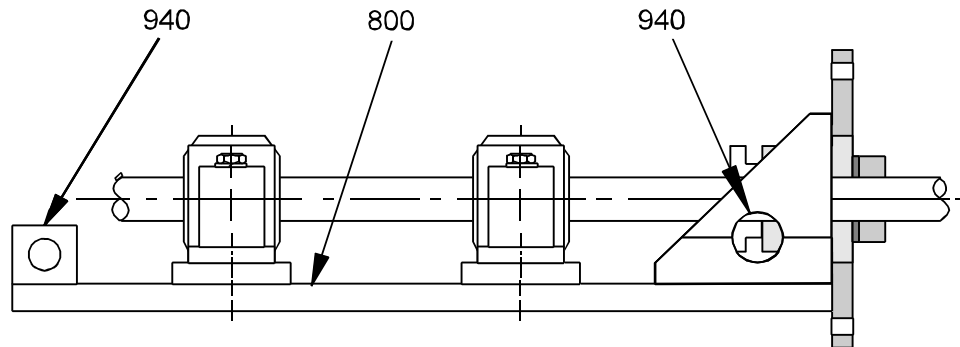

Figure 2: Lifting Lug Location
CAUTION: Do not lift the agitator from any other point but the lifting lugs provided. Two lugs are located on either side of the drive end of the base plate. The other two are holes on either side of the tank end of the base plate support wings, Figure 2.
4. Lift the agitator with a portable hoist or equivalent, using the designed lifting points shown in **Figure 2, page 5**. Ensure that the four slotted holes in the agitator base plate (800) drop over the anchor studs in the support base. Do not rest the base plate on the support until the agitator is fastened to the tank nozzle or wall insert.